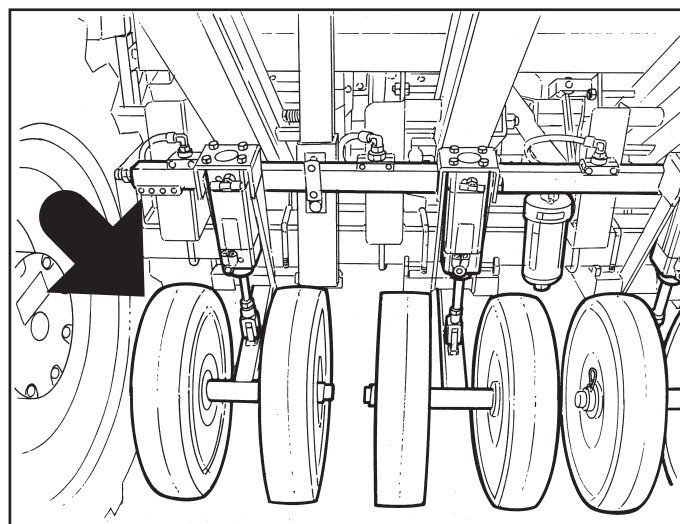

Fig. 1
- 5) Rear film-pressing wheels lift/lower lever (if provided) (Fig. 1).
- 6) Pressure regulator for pneumatic cylinder of film seal rear wheels (Fig. 1).